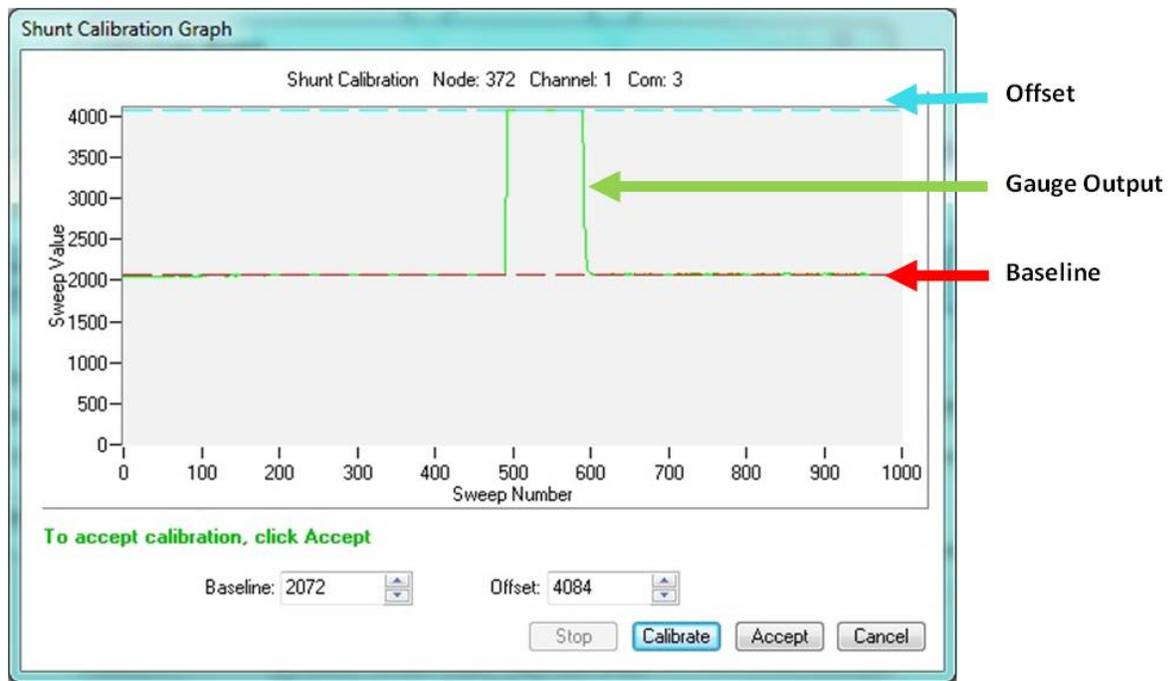

Figure 34 - Strain Gauge Calibration
12. Verify the calibration looks as shown in Figure 34 - Strain Gauge Calibration. The green line represents the output of the strain gauge. With no load applied it should sit near the Auto Balance baseline value, represented by the red dashed line. During calibration, a shunt resistance (selected on the Parameters page) is applied across the strain bridge, shown by the square pulse on the output. The Offset value, shown with the dashed blue line, is the average output value of the pulse and should sit across the top of the pulse. If the gauge has not had time to equilibrate before sampling, or if varying environmental factors exist, spikes in the gauge output may occur and affect the Baseline and Offset values. If this occurs, the Baseline and Offset values can be adjusted to clip the spikes in the output values. Adjust them as needed, and select Accept when completed.